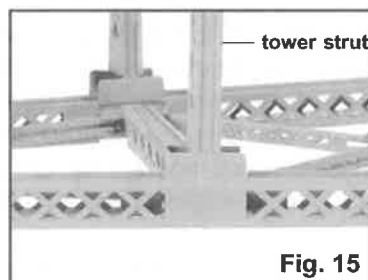
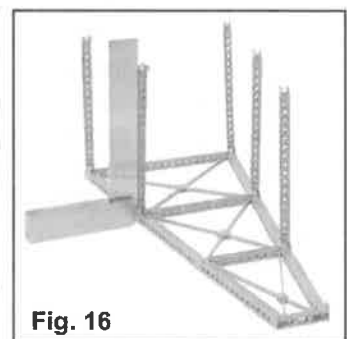

Fig. 15
Fig. 16
b. Check that the ends of the lattice on the tower strut will butt against the tower gusset plate on the bent assembly. See fig. 15. It will probably be necessary to shorten the tower strut for correct fit. Start by trimming off a small amount of the outside tab then, if necessary, file down some of the edge of the half or full gusset plate. Also, see the **Tip** in d. below.
d. Position each tower strut as follows; 1. so it is aligned with the double row of rivets on the tower gusset plate. See fig. 15; 2. with the tower flat on the work surface, place a square on the work surface and check that the tower strut is square in both planes, perpendicular to and in line to the tower. See fig. 16; 3. looking from above, the tower strut should be slightly twisted so it is